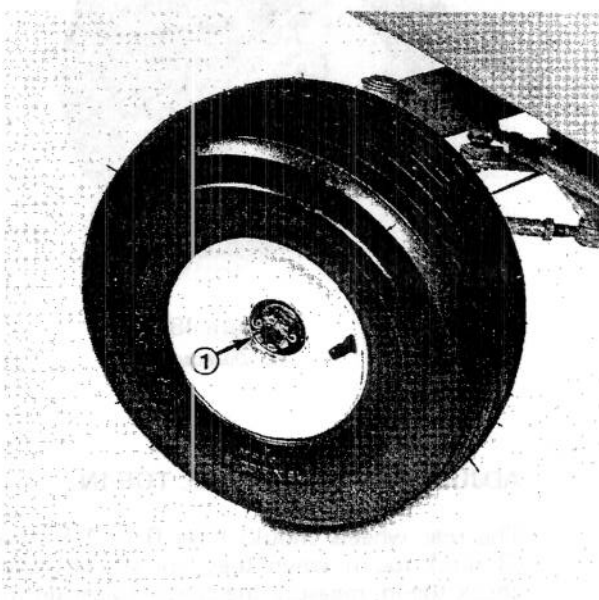

Figure 46
2. Remove dust cap from end of wheel spindle. Also remove cotter pin retaining slotted nut in place (Fig. 46).